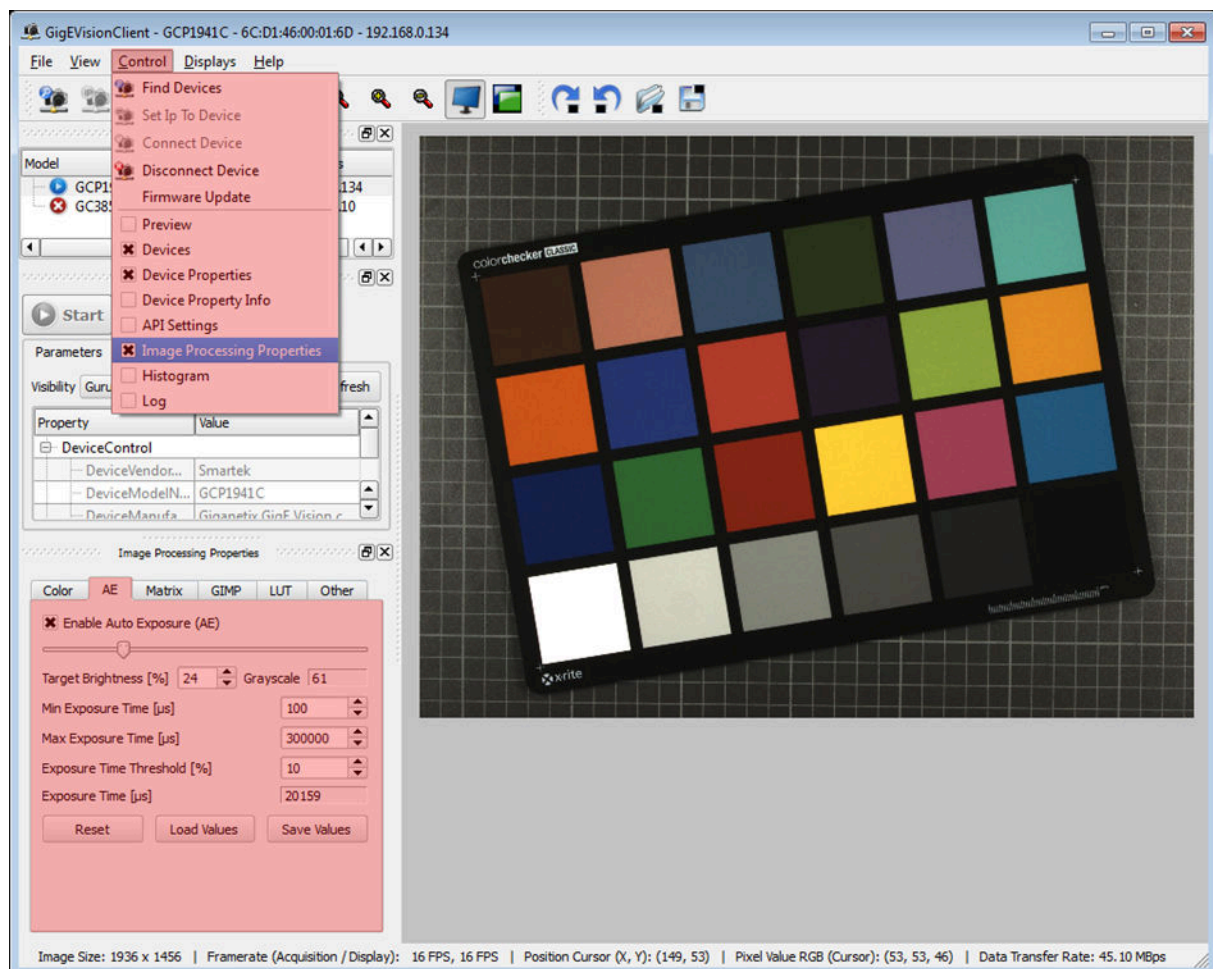

Figure 141: Auto Exposure in GigEVisionClient.
In the *GigEVisionClient* the *Auto Exposure* (AE) can be enabled / disabled in the *Image Processing Properties* panel under AE (see Figure 141). If not visible, the panel can be enabled by the menu bar entry *Control* \Rightarrow *Image Processing Properties*.